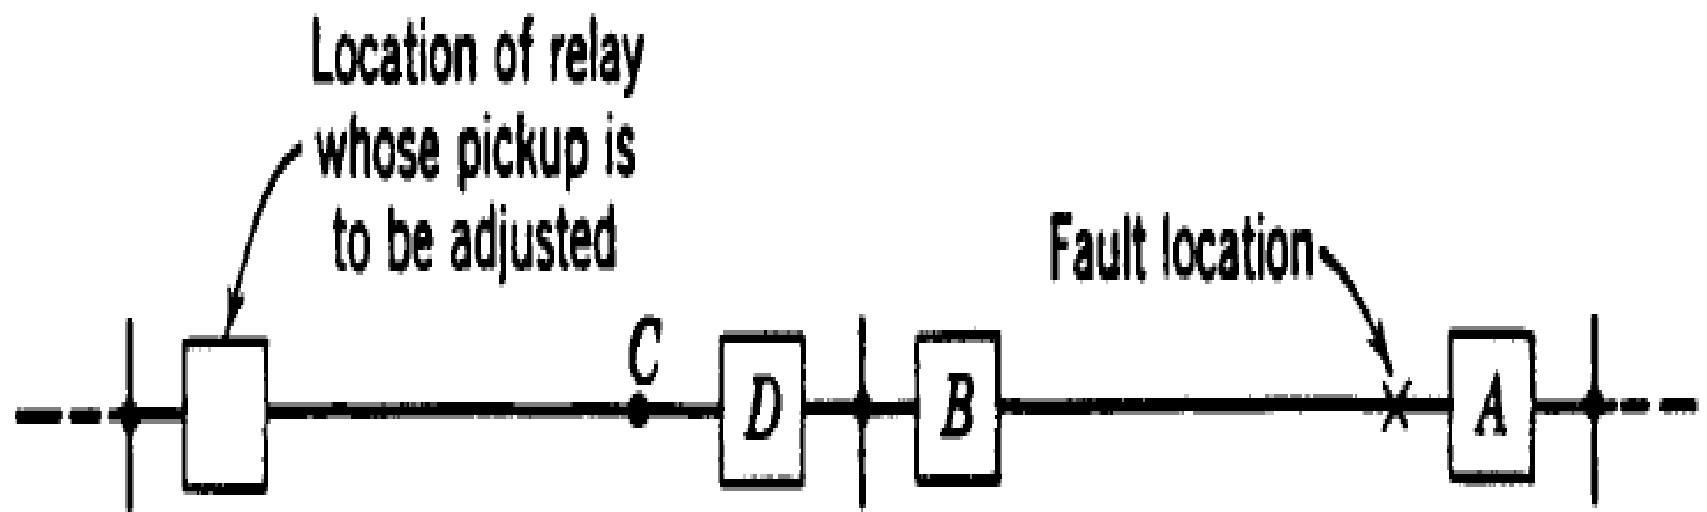

Fig. 1. The fault location for adjusting the pickup for back-up protection.
The first step is to choose the pickup of the relay so that it will (1) operate for all short circuits in its own line, and (2) provide back-up protection for short circuits in immediately adjoining system elements under certain circumstances. For example, if the adjoining element is a line section, the relay is set to pick up at a current somewhat less than it receives for a short circuit at the far end of this adjoining line section under minimum generating or other conditions that would cause the least current flow at the relay location. This is illustrated in Fig. 1.
If there are two or more adjoining line sections, the fault should be assumed at the end of the section that causes the least current to flow at the location of the relay being adjusted. Because of the effect of parallel circuits not shown, less current will flow at the relay location of Fig. 1 if breaker A is closed than if A is open. If satisfactory adjustment can be obtained with A closed, so much the better. However, the relay under consideration is being adjusted to operate if breaker B fails to open; it is not generally assumed that breaker A will also fail to open.
Under certain circumstances, the relay will get less current for a phase-to-phase fault at C with breaker D closed and under minimum generating conditions than for the fault location shown in Fig. 1 with A open; the relay must be able to operate for this condition also. In order to use the most inverse portion of the relays time curves, the pickup in terms of primary current should be as high as possible and still be low enough so that the relay will operate reliably under the minimum fault-current condition.